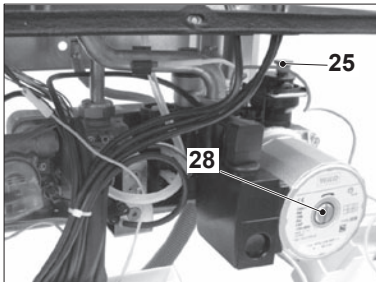

Fig. 7.3
- Lift the cap on the automatic air purger valve 25 in Fig. 7.3 one full turn and leave open permanently.
- Purge the air from the pump by unscrewing the pump plug 28 (Fig. 7.3); release the pump shaft by turning in the direction indicated by the arrow on the information plate.